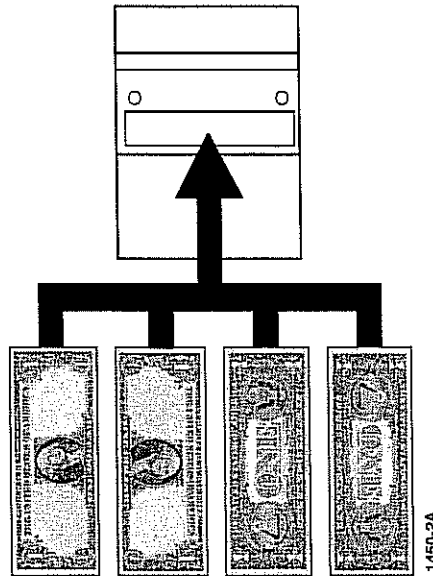

Figure 1-2. Bill Orientation – DBV-45 Only.
- **Bill Acceptance** – The DBV-45 validator accepts a bill either face up or face down (see Figure 1-2 for proper bill orientation). The DBV-145/147 models accept bills face up only. Once inserted, the bill is validated within two seconds, with a minimum acceptance ratio of 90 percent.
Note: In newer software versions capable of accepting the old and new style currency (i.e. \$50 and \$100), bills are accepted only face up with the top of the portrait to the right (the second orientation shown in Figure 1-2).